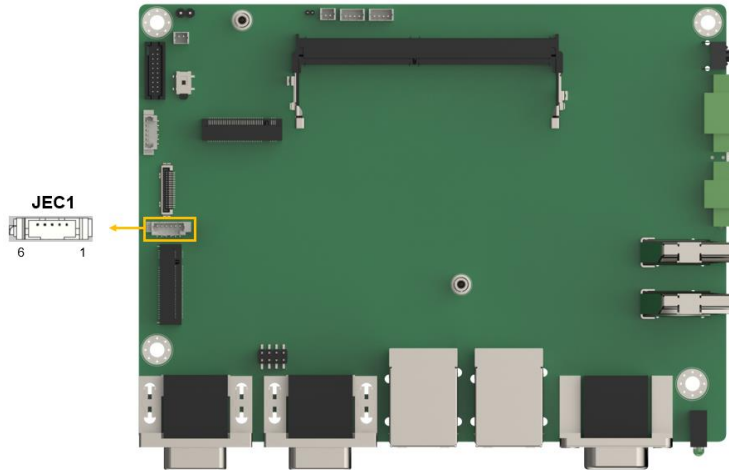

Figure 4-14: EC ROM Debug Connector Location
- CN Location:** See **Figure 4-14**